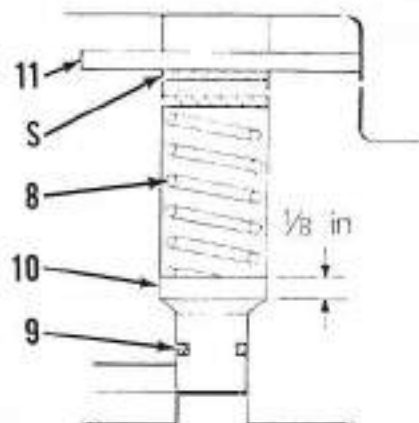

Fig. 123—Cross-section of pressure relief valve. Latest type has 1/8-inch head as shown. Shims are located as indicated. Refer to Fig. 120 for legend.
A 0-100 psi or equivalent gage is required for checking pressure. Check point is a 0.448 inch AF plug on valve spool of early tractors, a 0.500 inch AF plug on valve spool of later models. Access to the check point is obtained by removing plug on right side of gear box cover of later tractors or early modified tractors. The gear box cover will need to be removed from early tractors for checking pressure unless cover is already modified as shown in Fig. 122. Connect gage as shown in Fig. 121, then as soon as system oil reaches normal temperature, move Hydra Shift lever to 1st gear and observe pressure gage. If relief pressure is less than 69 psi, remove cover and install shims above relief spring (8-Fig. 123) as shown. Each 0.020 inch thick shim will increase pressure approximately 3 psi. Recommended setting pressure is 71-75 psi. New "O" ring (9) should be